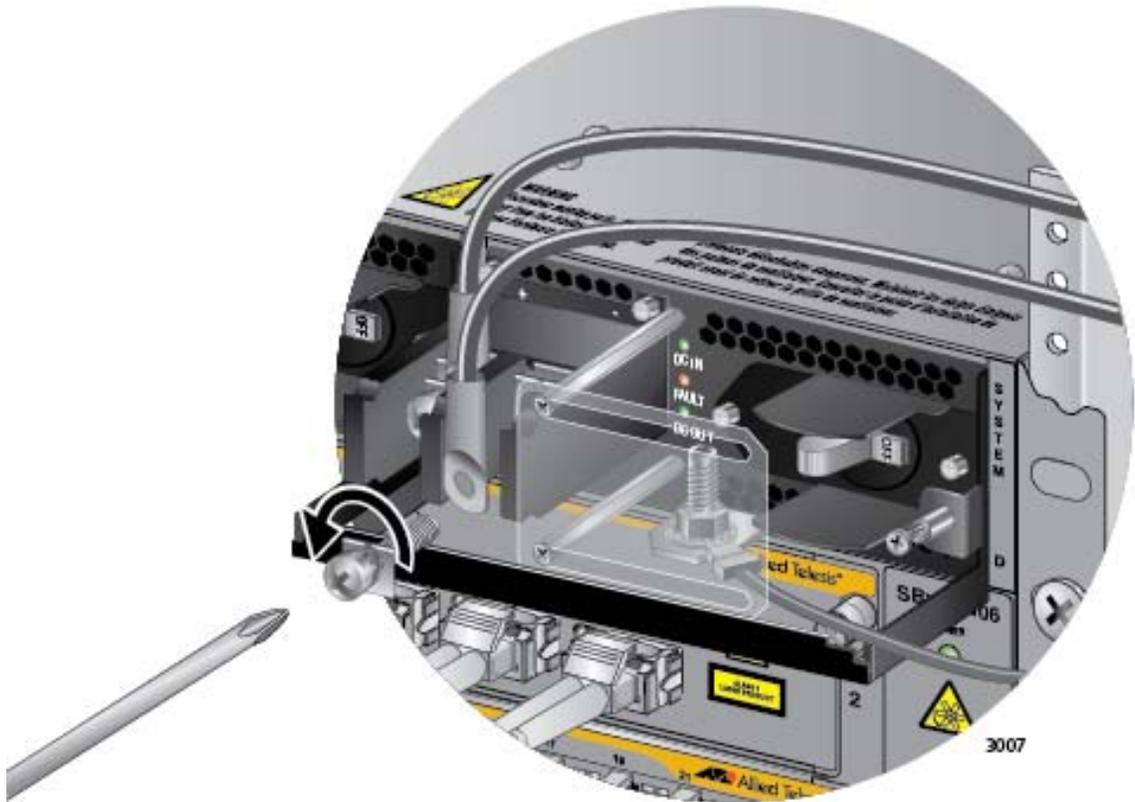

Figure 144. Removing the Negative Lead Wire
5. Use a #3 screwdriver to remove the negative (-) lead wire from the terminal block. The negative lead wire is on the right. Refer to Figure 144 on page 213.